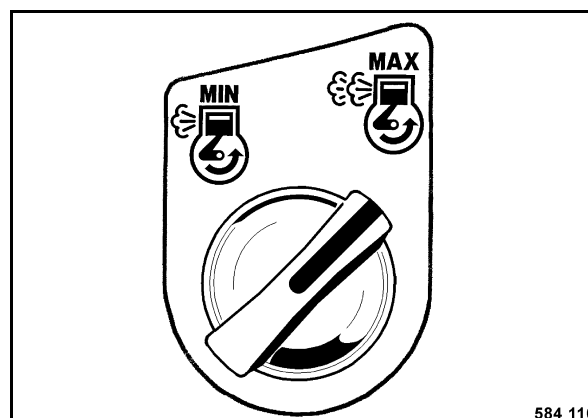

Fig. 49
- Turn the rotary switch (Fig. 49) to "Max" position (full throttle).